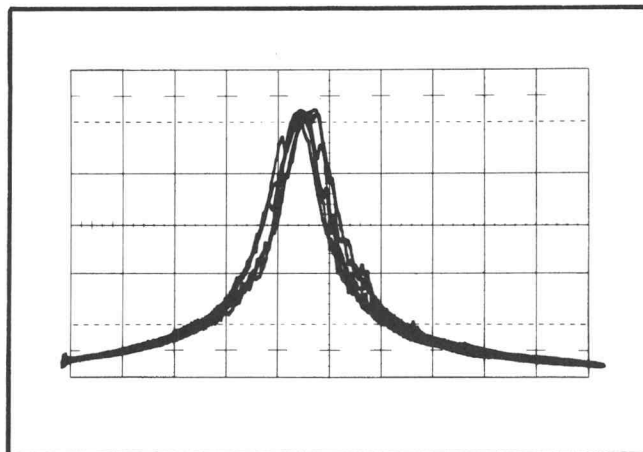

Fig. 5-6. Typical display for Incidental Frequency-Modulation Check, showing several superimposed sweeps (Step 16).
f. Set the oscilloscope sweep rate to 20 ms/cm. The display must not show more than 0.2 centimeters of frequency modulation. (See Fig. 5-6.)